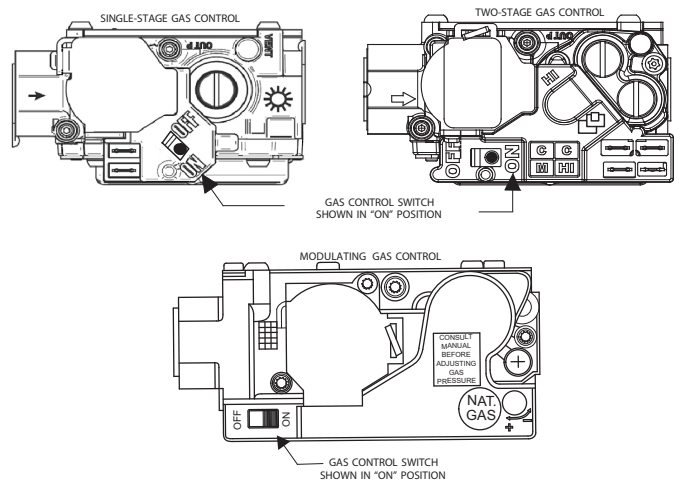

Fig. 12 – Control Switch to ON
6. After waiting five minutes, turn control switch on the gas control to the ON position. Turn the control switch to ON (see Fig. 12).